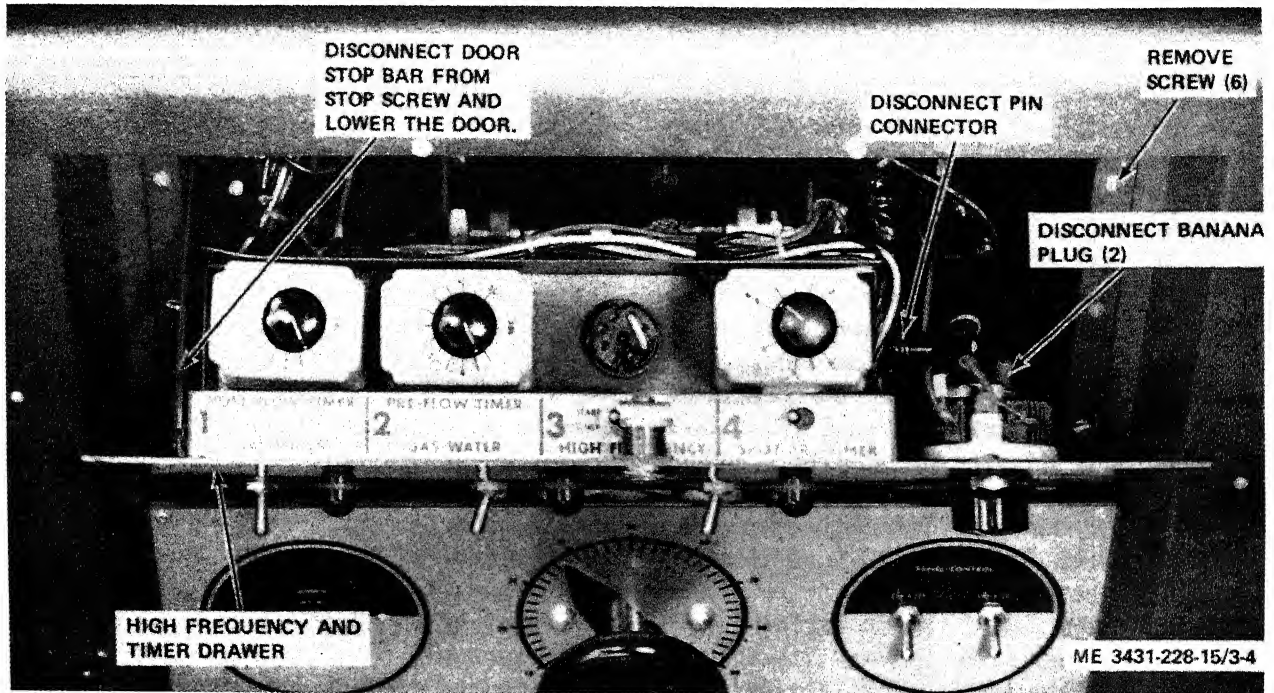

Figure 3-4. High frequency and timer drawer, removal and installation.
(1) Disconnect ac power from the welding machine.
(2) With the key, unlock the front panel door and open it.
(3) Disconnect the door-stop bar from the stop screw in the upper left corner and lower the front panel.
(4) Refer to figure 3-4 and remove the high frequency and timer drawer.
(1) Refer to figure 3-4 and install the high fre-